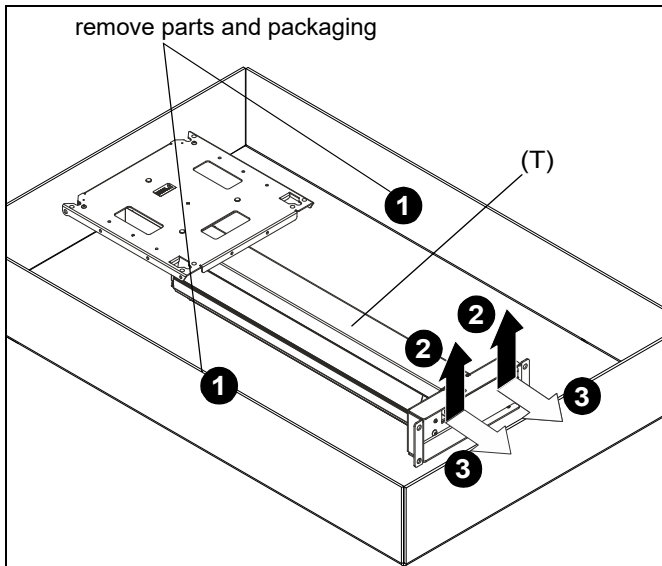

Figure 1
1. Remove all boxes and smaller parts. Leave foam packaging and other cardboard pieces inside to provide stability while performing Steps 2-4. (See Figure 1)
2. Lift column assembly (T) up by lifting at the bottom of the assembly. (See Figure 1)
3. Carefully set column assembly (T) base on the edge of box. (See Figure 1)